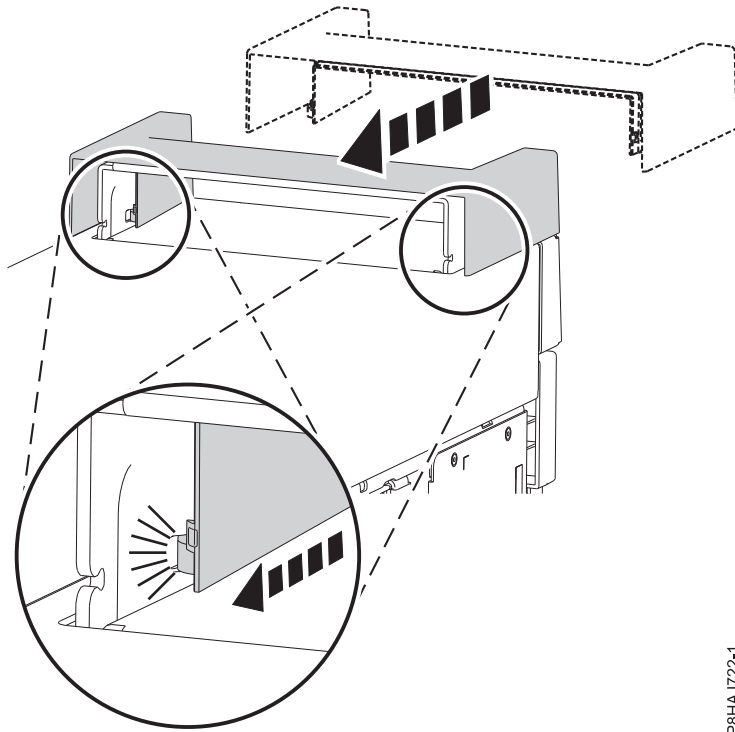

Figure 33. Securing the handle cover in an 8286-41A stand-alone system
1. Secure the handle cover to the internal RDX docking station (FC EUA3) by sliding it toward the rear of the system. See Figure 33.